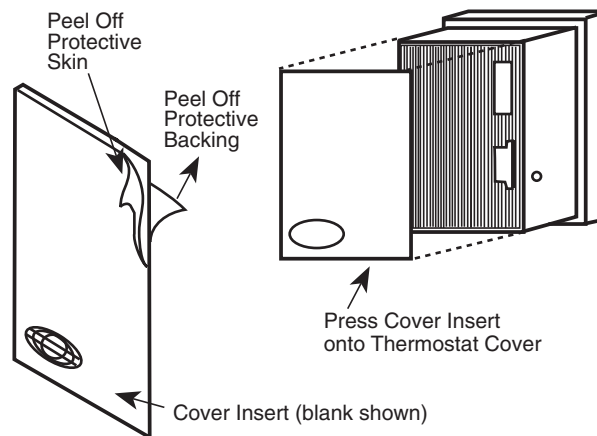

Figure-5 Cover Insert Installation.
2. Remove protective backing and protective skin on face of cover insert (see Figure-5 ).